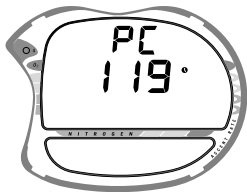

Fig. 22 - PC Interface
- The graphic **PC** appears with a 120 second countdown (Fig. 22). Download must be initiated before the countdown reaches 00.